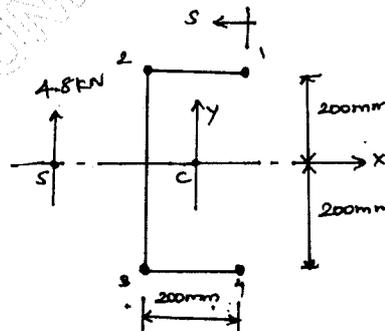

Fig Q4(a)
- 4 a. Calculate the shear flow distribution in the channel section, shown in Fig Q4(a) produced by a vertical load of 4.8kN acting through its shear center. Assume that the walls of the section are effective in resisting only shear stresses, while the booms, each of area 300mm^2 , carry all the direct stress. (08 Marks)